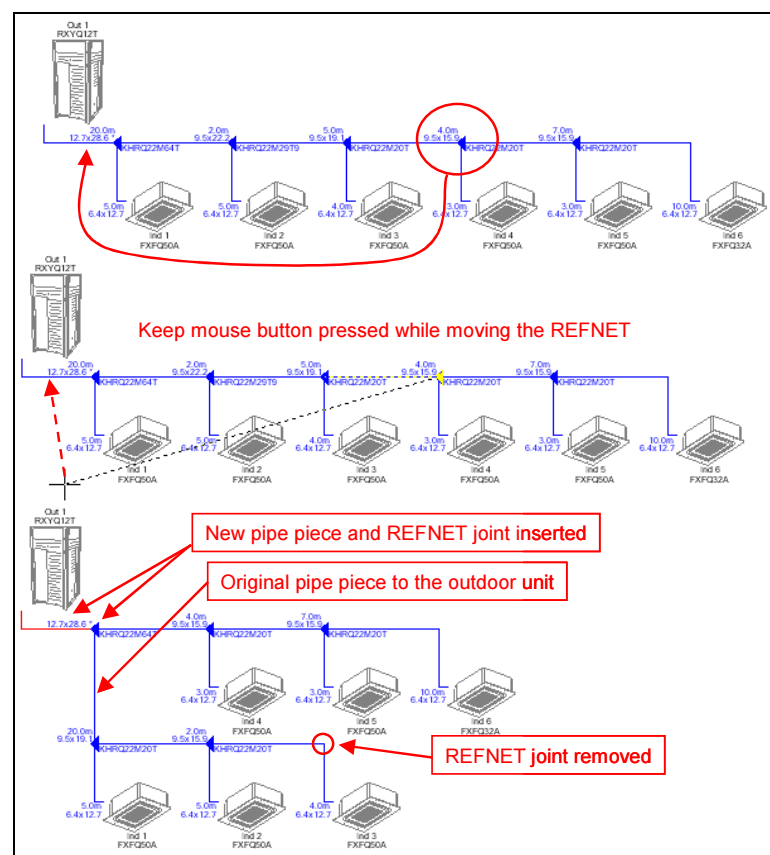

Figure 41: Editing the piping diagram
To adapt the first piping diagram into the second one, the last three indoor units (Ind4, Ind5 and Ind6) must move to the front and must connect closer to the outdoor unit, as shown in Figure 41 at the top. VRV\_Xpress offers an editing function, which allows you doing this using the mouse as follows:
- Press the left mouse button and keep it pressed while you move the mouse. A dotted line appears together with a large cross, as shown in Figure 41 in the middle.
- Release the mouse button. This gives the diagram as shown in Figure 41 at the bottom. VRV\_Xpress has removed a REFNET joint and added a new one, thereby adding a new piping piece.